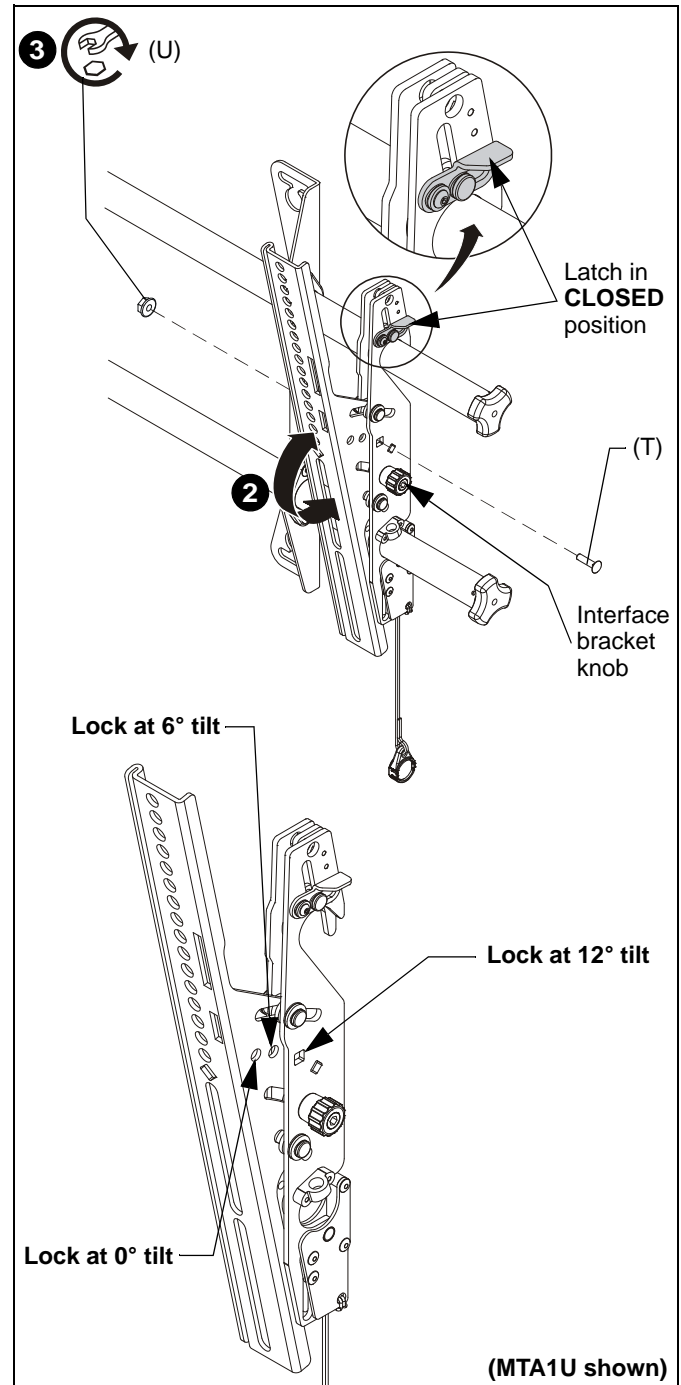

Figure 11
3. **(MTA1U / LTA1U only)** Move latch on top of interface brackets to CLOSED position. (See Figure 11)
2. Adjust tilt as required. (See Figure 11)
3. The tilt may be locked at 0°, 6° or 12° using one 1/4-20 x 1" round head carriage bolt (T) and one 1/4-20 hex nut (U) per interface bracket. (See Figure 11)